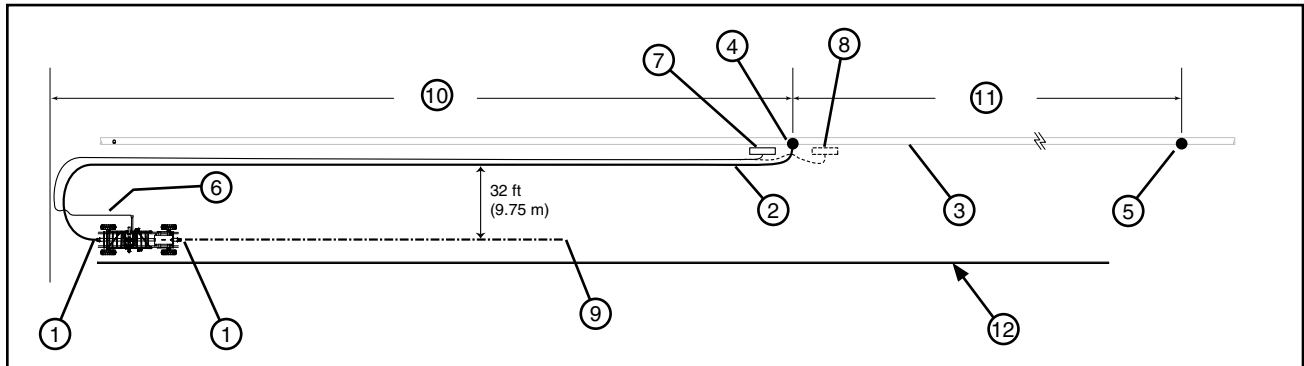

Figure 53-1
- When using the center inlet, position the hose as shown. See Figure 53-1.
- If using the optional electric cord drag with the center inlet, position the electric cord far enough away from the hose, so that the hose will not drag over it. When applicable, prevent interference between the electric cord and hose by positioning the electric cord over the top of hose or burying the electric cord at point of anticipated interference. See Figure 53-1.